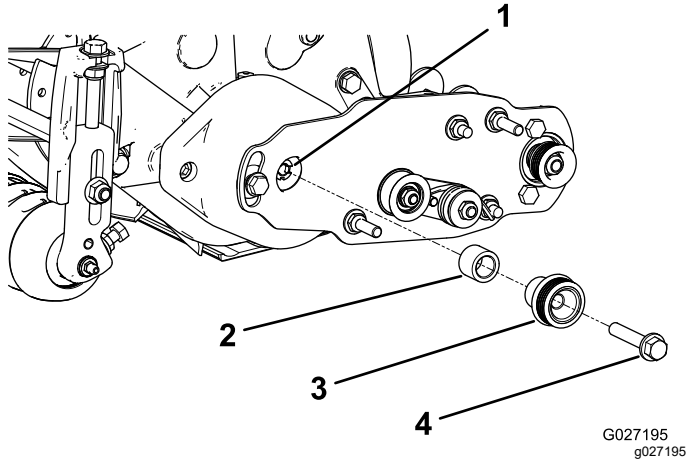

Figure 15
1. Insert the spacer onto the shaft in the bearing housing (Figure 15).
2. Insert the drive pulley into the spacer and onto the driveshaft (Figure 15).
3. Secure the pulley and spacer to the driveshaft with a flange-head bolt (3/8 x 2 inches); refer to Figure 15.